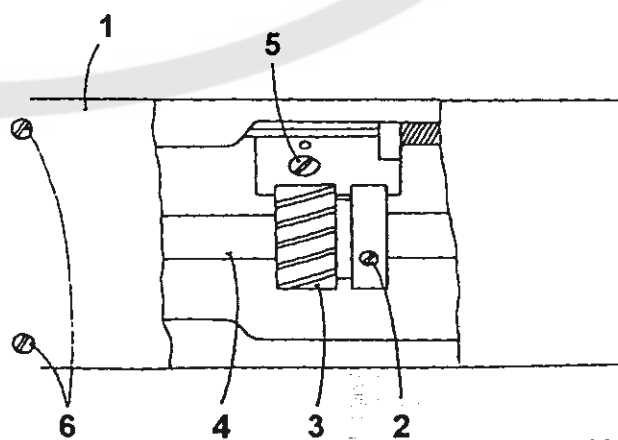
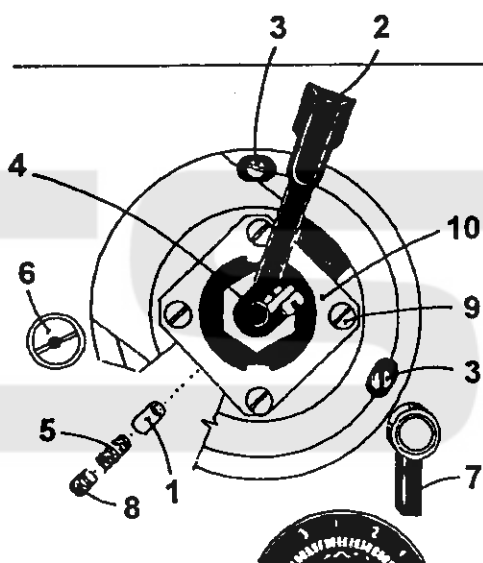
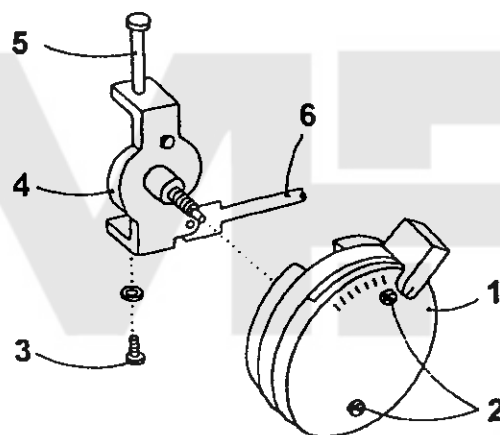

Fig. 11
Fig. 12
Fig. 13
18. To adjust the needle bar lateral movement (Fig. 11)
19. To adjust the control force required for stepless adjustment of the zigzag stitch width (Figs. 12, 13)
For the stepless tilting of the zigzag stitch bracket, the inlay (10, Fig. 12) of the body of the zigzag stitch mechanism contains the braking roller (1) with the spring (5) and with the adjustment screw (8). Turning the screw to the right increases the pressure exerted on the roller and, consequently, the force required to adjust the stitch width. A mechanism actuated by the lever (7) serving to fix the adjusted stitch width must be torn to the left prior to proceeding to the stitch width adjustment which is carried out by the lever (2) whose extreme left position, defined by a stop, produces the zero zigzag stitch width that can be increased up to 10 mm by displacing the lever to the right. The number marking on the cover (1, Fig. 13) shows the approximative stitch width value at each lever position. To adjust the control force, first take the complete zigzag stitch mechanism out of the machine arm column. For this purpose, screw out the two screws (2) from the body of the mechanism, remove the cover (1), screw out the three attachment screws (3, Fig. 12) from the body of the zigzag stitch mechanism, then screw out the securing screw (3, Fig. 13) on the pin (5), remove the pin from the guiding (4), loosen the fixing lever (7, Fig. 12) and take the pin (6, Fig. 13) out of engagement, thus releasing the body of the zigzag stitch mechanism that can be then taken out of the machine arm. For the assembly, proceed inversely.
20. To adjust the tooth play of the zigzag transmission mechanism (Figs. 11, 12)
The tooth play of the zigzag stitch transmission mechanism is actuated by the eccentric pin (6, Fig. 12). To adjust the tooth play, first screw out the four attachment screws (6, Fig. 11), remove the upper cover (1), and loosen the screw (5) located in the lug of the machine arm. By turning then the eccentric pin (6, Fig. 12) adjust the tooth play of the zigzag transmission mechanism, i. e., between the complete cam and the gear wheel (3, Fig. 11) mounted on the upper shaft (4), then lock the adjusted position by thoroughly tightening the screw (5).